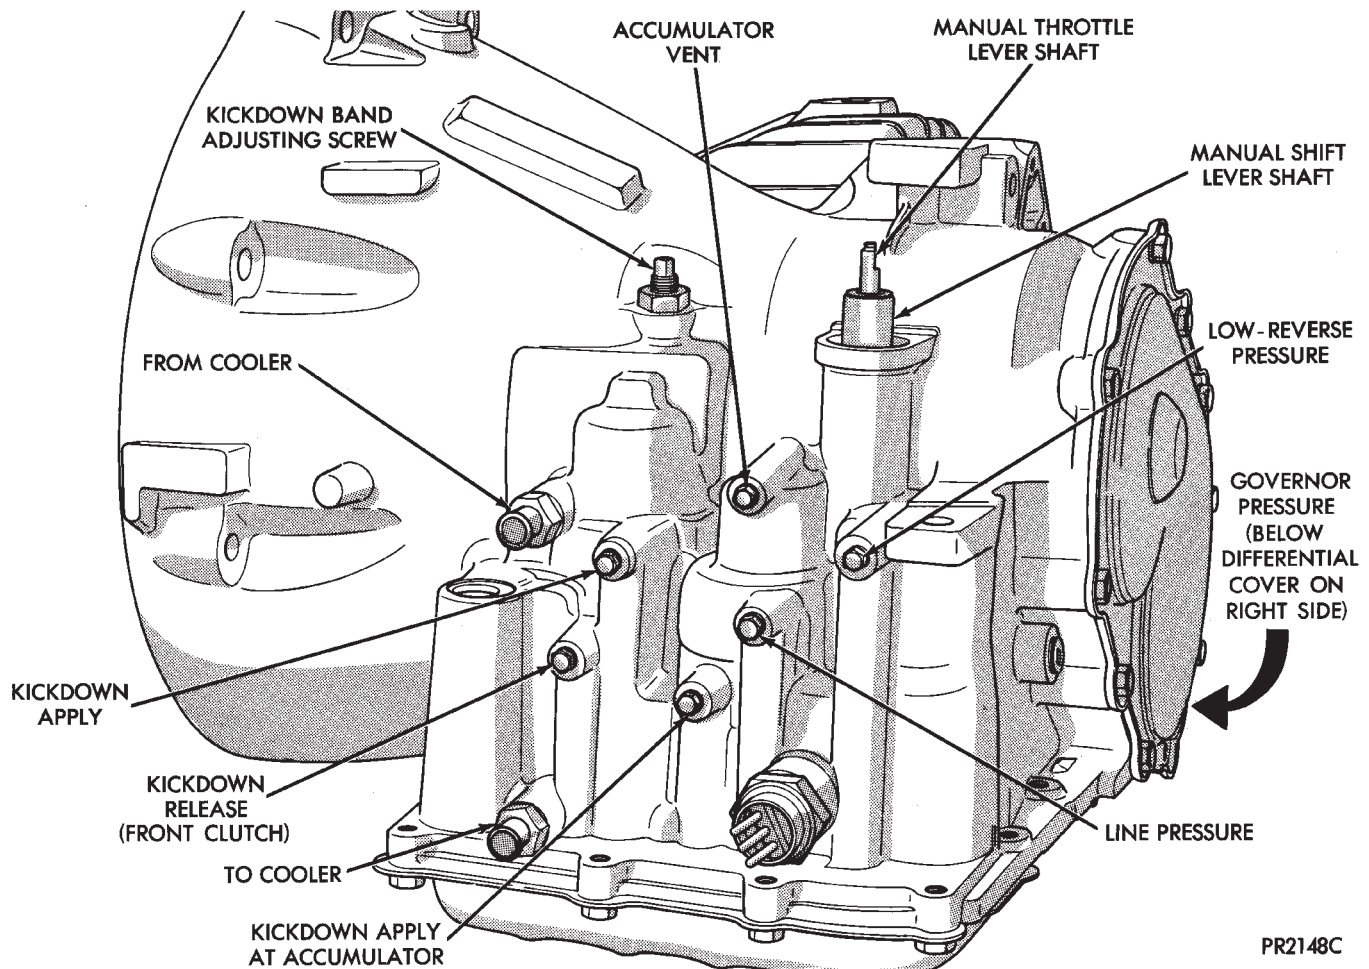

Fig. 3 Transaxle (Left Side)
Test port locations are shown in (Fig. 3).
- (1) Attach gauges to "line" and "low-reverse" ports (Fig. 3).
- (2) Operate engine at 1000 rpm for test.
- (3) Move selector lever on transaxle all the way rearward ("1" position).
- (4) Read pressures on both gauges as throttle lever on transaxle is moved from full clockwise position to full counterclockwise position.
- (5) Line pressure should read 52 to 58 psi with throttle lever clockwise and gradually increase, as lever is moved counterclockwise, to 80 to 88 psi.
- (6) Low-reverse pressure should read the same as line pressure within 3 psi.
- (7) This tests pump output, pressure regulation, and condition of rear clutch and rear servo hydraulic circuits.
(1) Attach one gauge to "line pressure" port and "tee" another gauge into lower cooler line fitting to read "lubrication" pressure (Fig 3).
(2) Operate engine at 1000 rpm for test.
(3) Move selector lever on transaxle one "detent" forward from full rearward position. This is selector "2" position.
(4) Read pressures on both gauges as throttle lever on transaxle is moved from full clockwise position to full counterclockwise position.
(5) Line pressure should read 52 to 58 psi with throttle lever clockwise and gradually increase, as lever is moved counterclockwise, to 80 to 88 psi.
(6) Lubrication pressure should be 10 to 25 psi with lever clockwise and 10 to 35 psi with lever full counterclockwise.
(7) This tests pump output, pressure regulation, and condition of rear clutch and lubrication hydraulic circuits.
(1) Attach gauges to "line" and "kickdown release" ports (Fig. 3).
(2) Operate engine at 1600 rpm for test.
(3) Move selector lever on transaxle two "detents" forward from full rearward position. This is selector "D" position.
(5) Line pressure should read 52 to 58 psi with throttle lever clockwise and gradually increase, as lever is moved counterclockwise to 80 to 88 psi.
(6) Kickdown release is pressurized only in direct drive and should be same as line pressure within 3 psi, up to kickdown point.
(7) This tests pump output, pressure regulation, and condition of rear clutch, front clutch, and hydraulic circuits.
(1) Attach 300 psi gauge to "low-reverse" port (Fig. 3).
(3) Move selector lever on transaxle four "detents" forward from full rearward position. This is selector "R" position.
(4) Low-reverse pressure should read 180 to 220 psi with throttle lever clockwise and gradually increase, as lever is moved counterclockwise to 260 to 300 psi.
(5) This tests pump output, pressure regulation, and condition of front clutch and rear servo hydraulic circuits.
(6) Move selector lever on transaxle to "D" position to check that low-reverse pressure drops to zero.
(7) This tests for leakage into rear servo, due to case porosity, which can cause reverse band burn out.
(1) Connect a 0-150 psi pressure gauge to governor pressure take-off point, located at lower right side of case, below differential cover (Fig. 3).
(2) Operate transaxle in third gear to read pressures. The governor pressure should respond smoothly to changes in mph and should return to 0 to 3 psi when vehicle is stopped. High pressure at standstill (above 3 psi) will prevent the transaxle from downshifting.